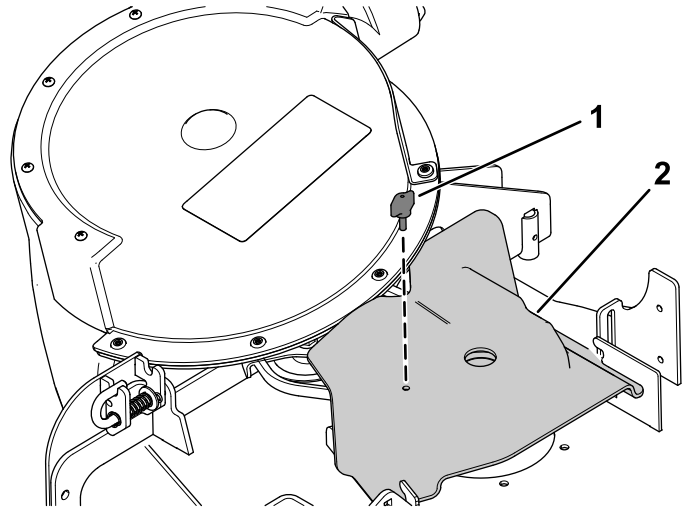

Figure 22
2. Install the blower-belt cover over the blower belt and secure the blower-belt cover with the knob (Figure 22).